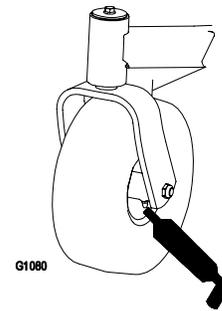
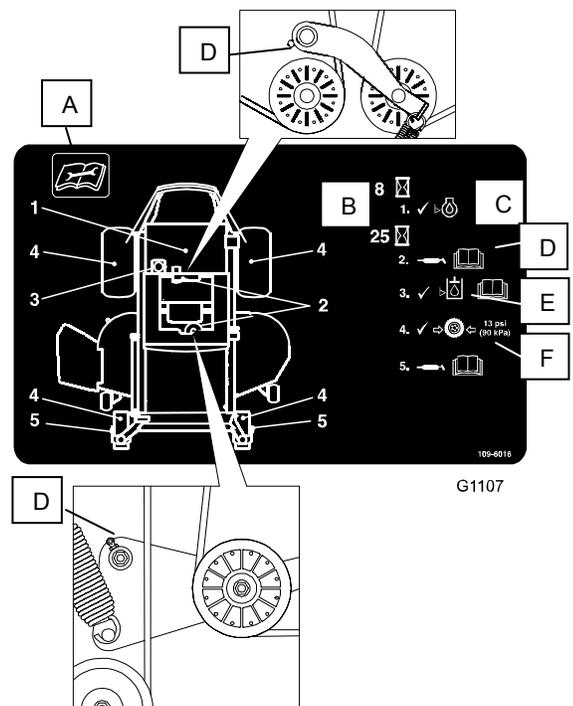

Figure 20
Figure 21
Grease the front caster pivots and wheels (Figure 20).
3. Clean the grease fittings (Figure 20 and Figure 21) with a rag. Make sure to scrape any paint off of the front of the fitting(s).
4. Connect a grease gun to each fitting (Figure 20 and Figure 21). Pump grease into the fittings until grease begins to ooze out of the bearings.